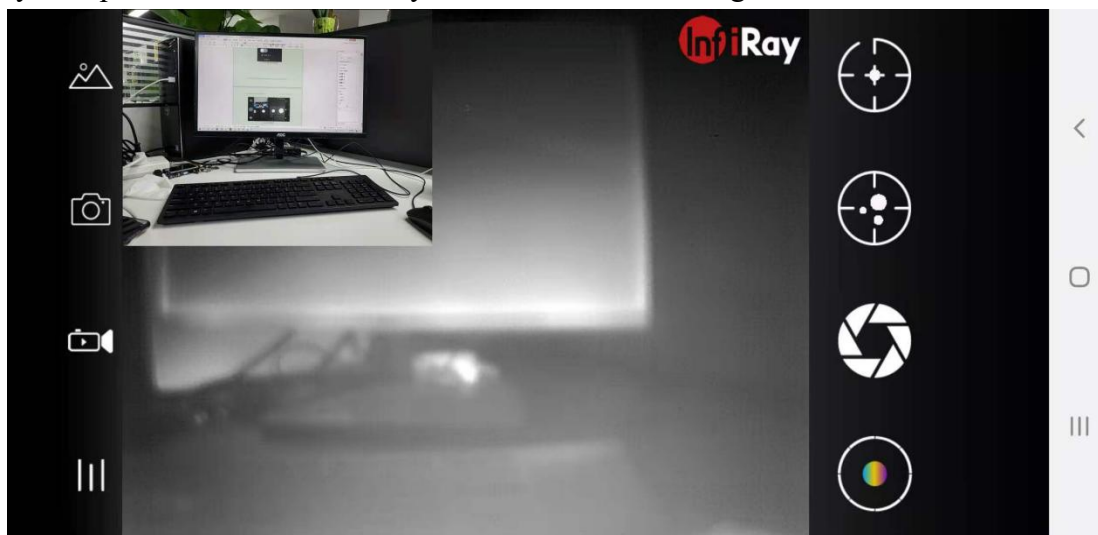

Figure 2.2.8 System camera
5. System Camera: When this option is enabled, the screen of the phone camera will be displayed in the upper left corner of the thermal image. Press and hold the system phone to move it where you want, as shown in Figure 2.2.8.